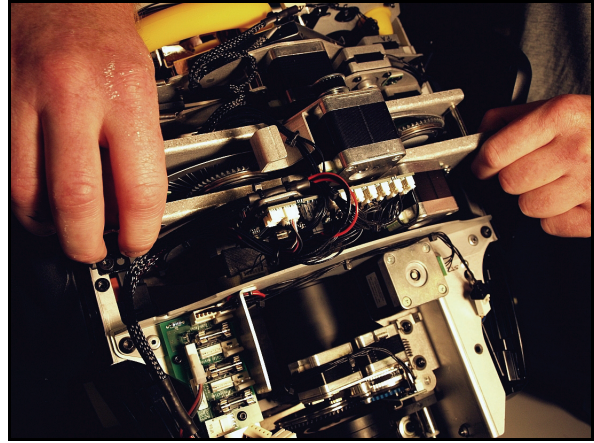

Figure 25: Projection module removal
5. See Figure 25. Lift the projection module out of the head and place it with the motors facing down on a work surface.